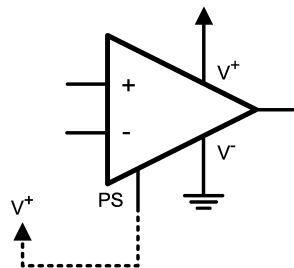

Figure 1a Low Power Mode
The LMV422 is a dual rail-to-rail output amplifier that can be switched between two active power modes. The power select pin (PS) provides a method to optimize the power consumption, bandwidth and short circuit current. When the PS pin is set to greater than 4.5V (Figure 1a) or left open, the LMV422 is in Low Power Mode operating at a bandwidth of